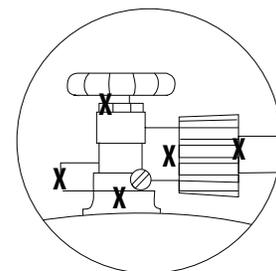

Fig. 3
- Check for leaks by brushing a solution of 50% water and 50% dish soap at all "X" locations (see Fig. 3).